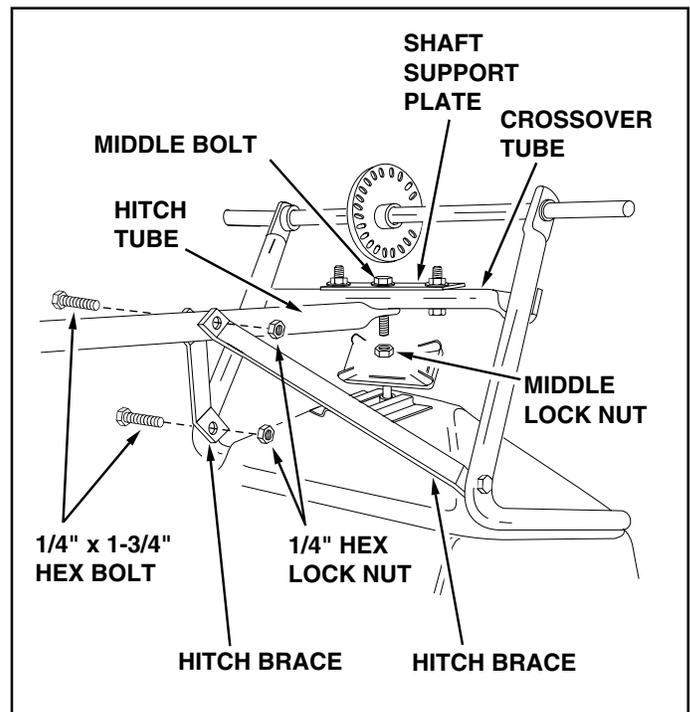

FIGURE 2
2. Assemble the two hitch braces to the inside of the hopper frame on each side using two 1/4" x 1-3/4" hex bolts and two 1/4" hex lock nuts. **DO NOT TIGHTEN YET.** See figure 2.
3. Remove the lock nut from the middle bolt in the crossover tube and shaft support plate. Leave the bolt in place. See figure 2.
4. Assemble the short end of the hitch tube onto the middle bolt and secure it with the same lock nut you removed. **DO NOT TIGHTEN YET.** See figure 2.
5. Assemble the two hitch braces to the hitch tube using a 1/4" x 1-3/4" hex bolt and a 1/4" hex lock nut. **DO NOT TIGHTEN YET.** See figure 2.